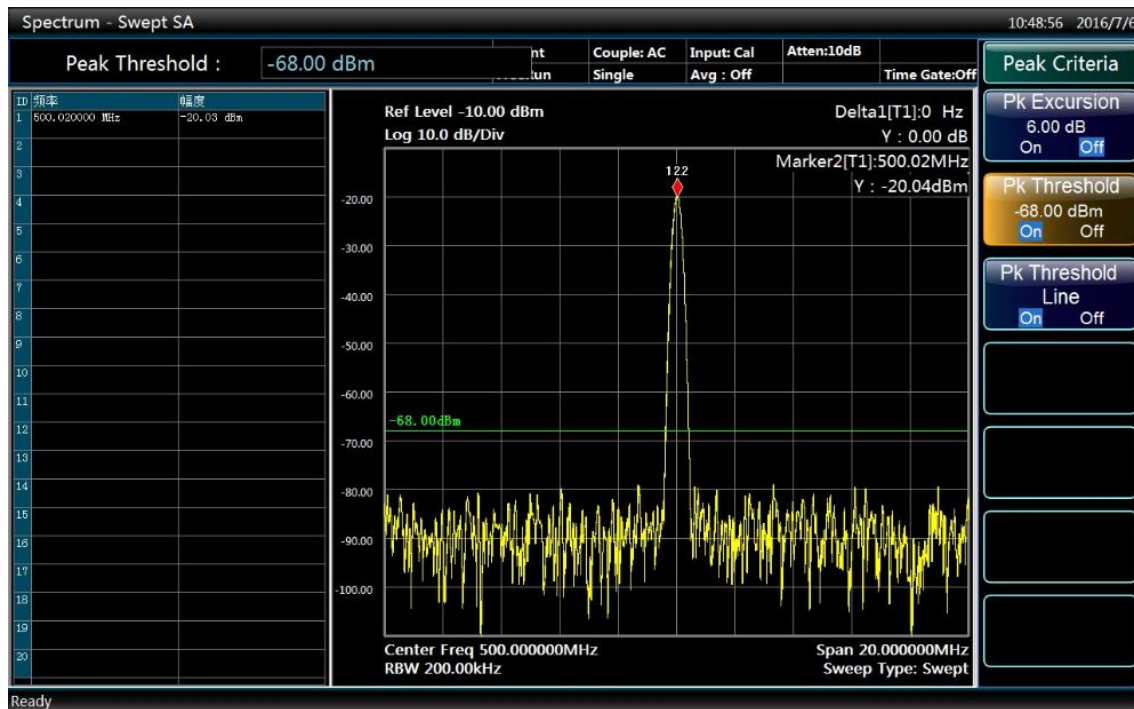

Fig. 3.22 The interface of opening peak threshold
- Press [Peak Search] to open the peak search soft menu; press [Menu 1/2], [Peak Criteria ►] and [Peak Threshold On/Off] to set the peak threshold as -68 dBm as shown in Fig. 3.22.